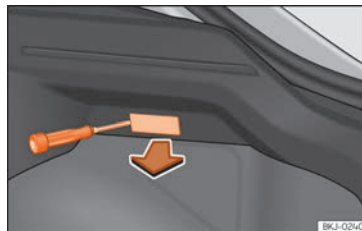

Fig. 63 Boot light.
- Extract the bulb by pressing on its inside edge using the flat side of a screwdriver »»» **Fig. 63**.